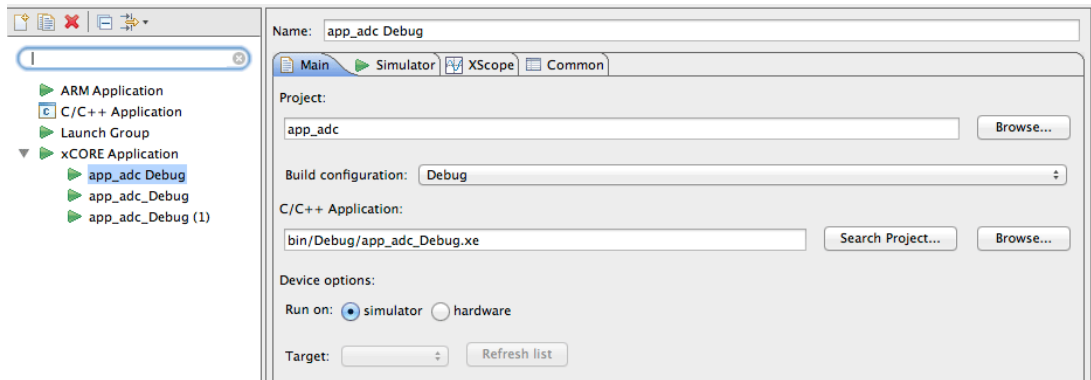

Figure 4: Screen capture showing Run Configuration for simulator
2. Select **Run on Simulator** option as shown in Figure 4: